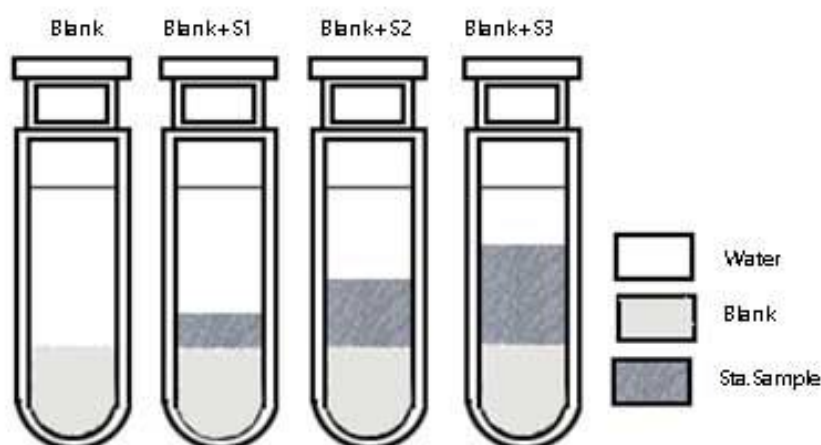

Figure 3.1. (1) Sample preparation by standard curve method
The standard solution containing the elements to be measured is added to 3 to 4 containers in the prescribed proportional order, and then diluted the above solution to the specified volume with the same solvent. Figure 3.1. (1) Indicates the concentration of this set of sample solutions prepared.